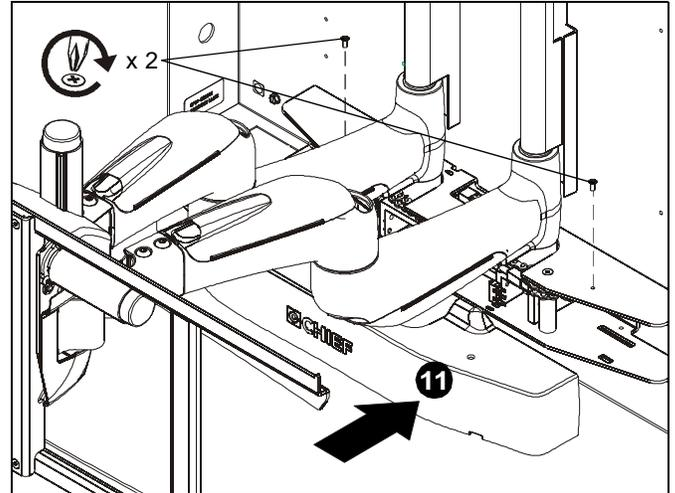

Figure 23
11. Replace lower cover and secure with two Phillips head screws removed in Step 5. (See Figure 23)